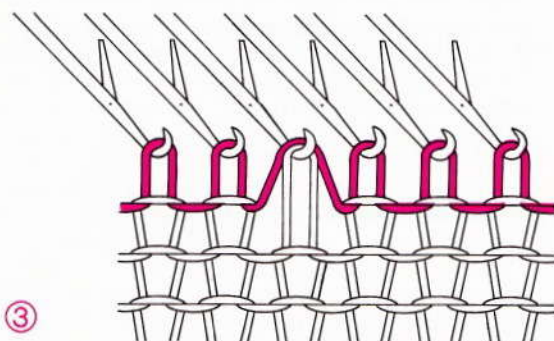

Fig. 214
- Slip the stitch and the yarn lying across it into the hook (1 stitch and 1 thread in the hook) (fig. 214).